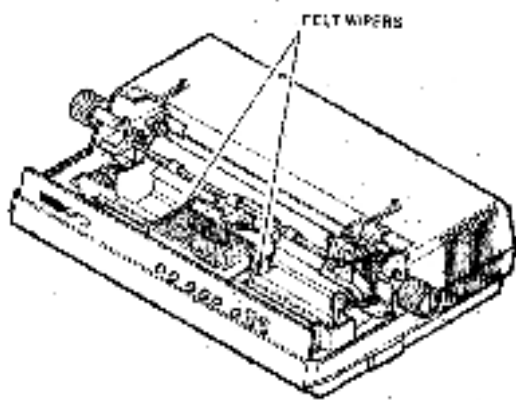

Figure 3-1 Felt Wiper Lubrication
2. Lubricate felt wipers on left and right side of rear carriage guide shaft with approximately 20 drops of lightweight electronic oil on each wiper (Figure 3-1). The wipers are kept next to the carriage by metal wiper brackets. You do not have to remove the wipers to lubricate them.